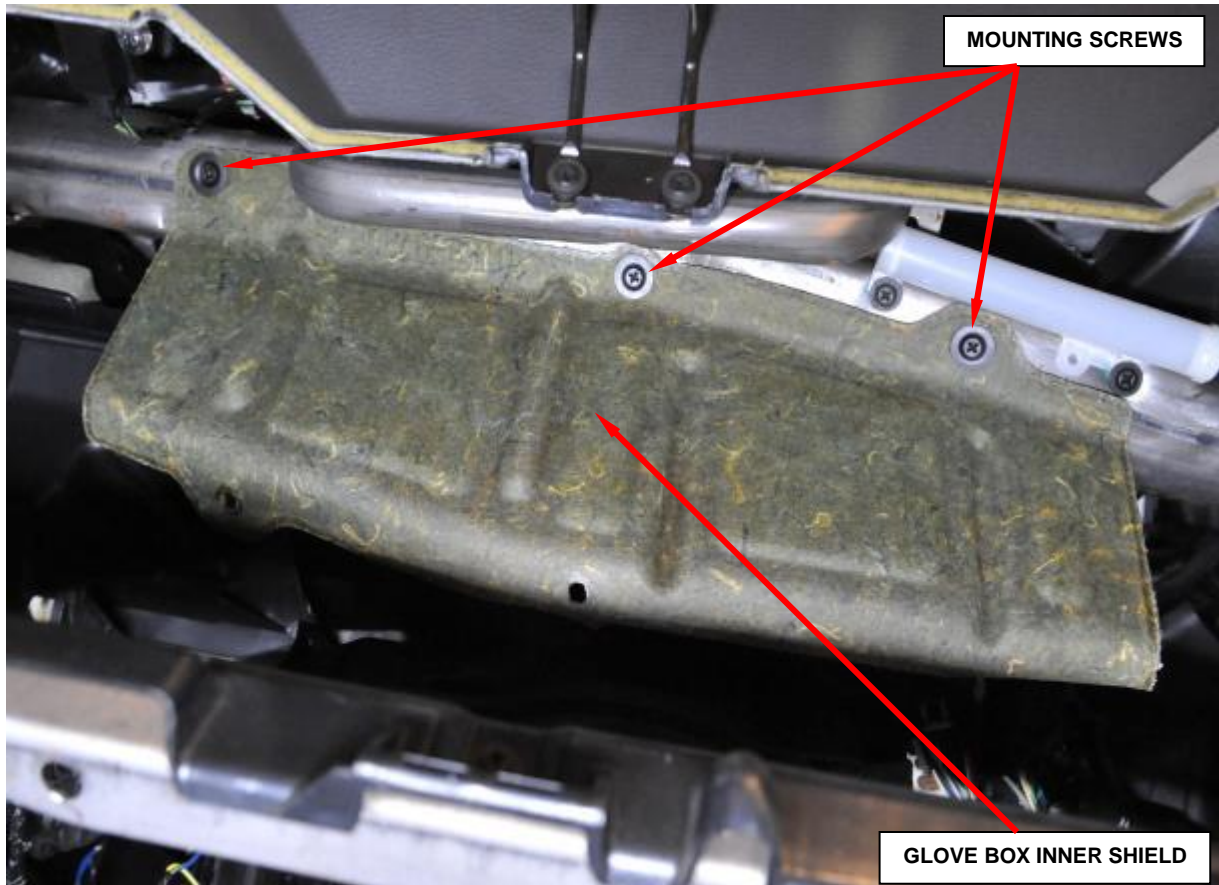

Figure 23 – Inner Glove Box Shield
4. Remove and save the three mounting screws to the inner glove box shield, if equipped (Figure 23).